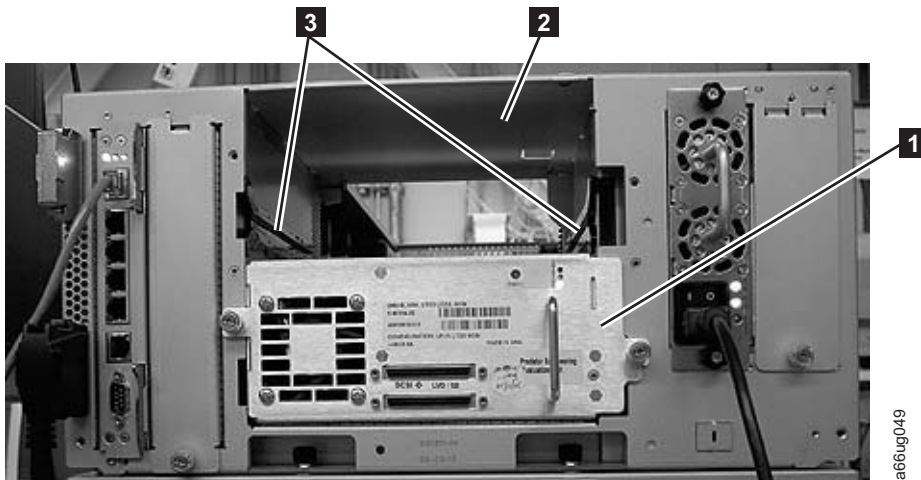

Figure 3-27. Guide rails and guide slots inside a drive slot
1. Align the drive sled with the guide rails and guide slots along the tracks (3 in Figure 3-27).